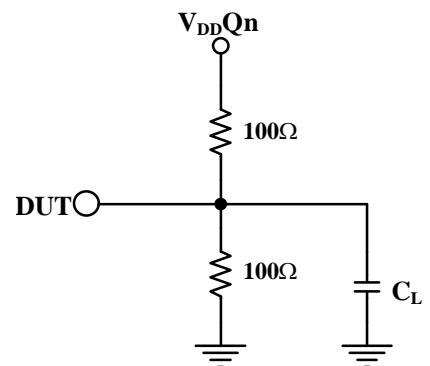

Figure 11.
- Reference Figure 11 for clock output loading circuit that is equivalent to the load circuit used for all AC testing. The input waveform used to test these parameters is shown in Figure 9.
1. Reference Figure 11 for clock output loading circuit that is equivalent to the load circuit used for all AC testing.
3. Test load = 40pF, terminated to $V_{DD}/2$. All outputs are equally loaded. See figure 11.